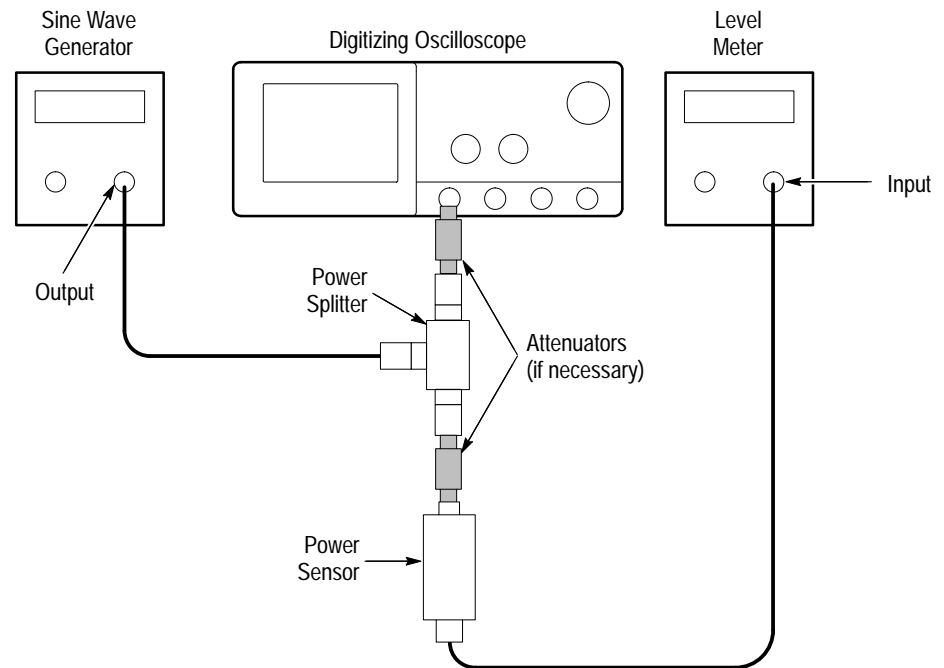

Figure 1-41: Sine Wave Generator Leveling Equipment Setup
1. *Install the test hookup:* Connect the equipment as shown in Figure 1-41.